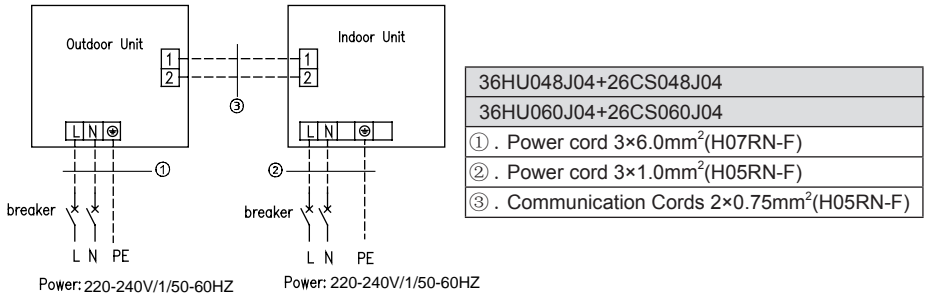

Fig. 4.39
- ① . The power cord and the wire of the fresh air valve are high-voltage, while the communication cord and connection wire of the wired controller are low-voltage. They should run separately against electromagnetic interference.
- ② . The high-voltage and low-voltage lines should pass through the rubber rings at different electric box covers.
- ③ . Do not bundle the connection wire of the wired controller and the communication cord together, or arrange them in parallel, otherwise improper operation would occur.
- ④ . The high-voltage and low-voltage lines should be fixed separately and securely, with internal big clamps for the former and small clamps for the latter.
- ⑤ . Tighten the indoor/outdoor connection cord and power cord respectively on the terminal boards with screws. Faulty connection may cause a fire.
- ⑥ . If the indoor unit connection cord (to the outdoor unit) and power supply are wired incorrectly, the air conditioner may be damaged.
- ⑦ . Connect the indoor unit connection cord properly based on the corresponding marks as shown in Fig. 4.39.
- ⑧ . Ground both the indoor and outdoor units by attaching a ground wire.
- ⑨ . Unit shall be grounded in compliance with the applicable local and national codes.